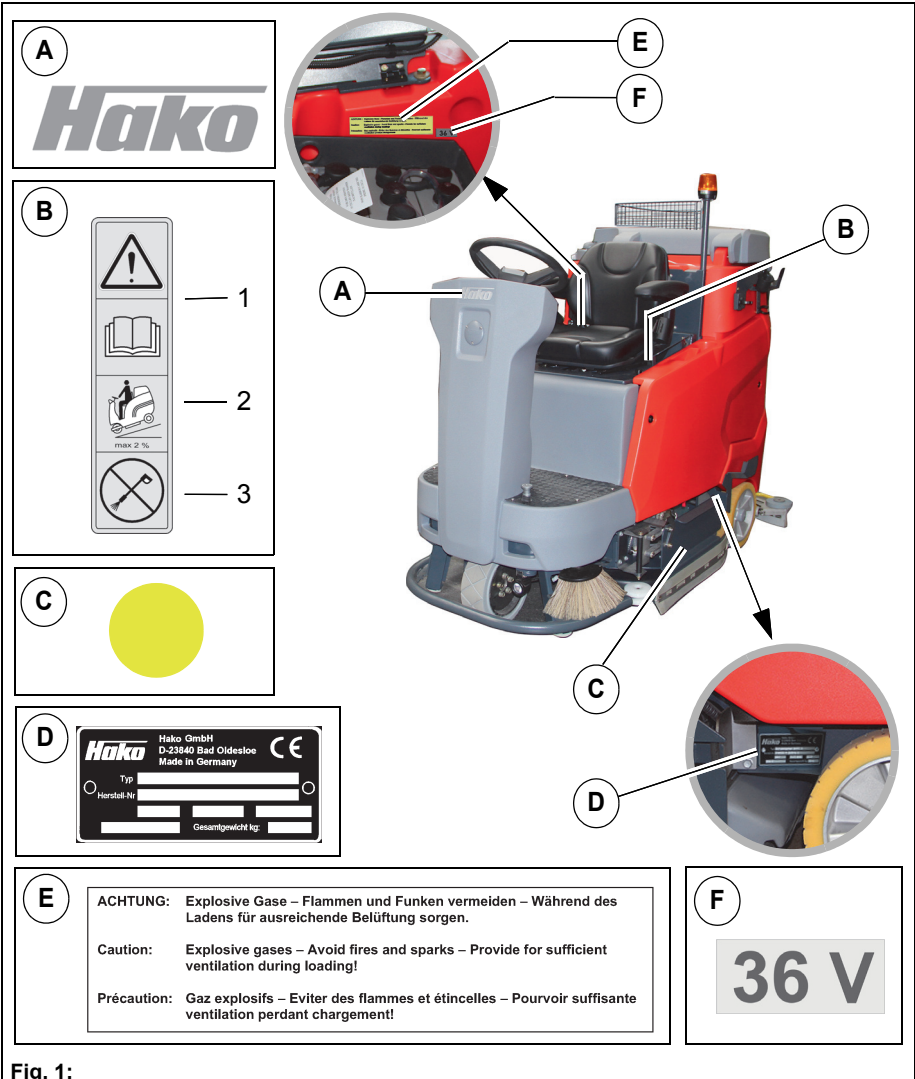
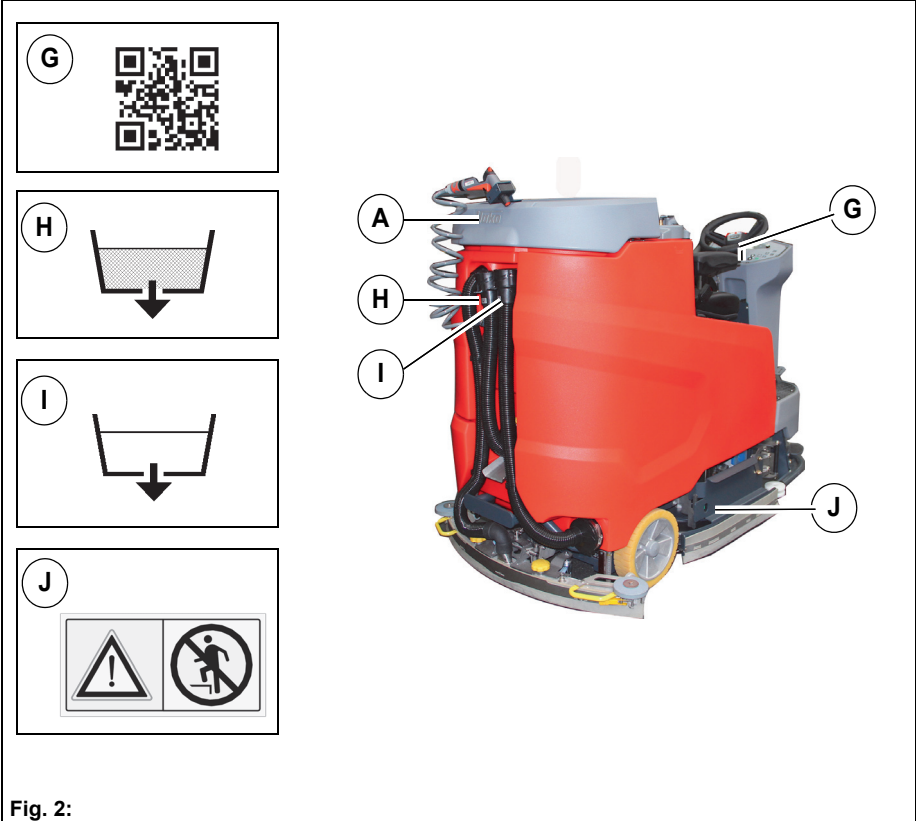

Fig. 1:
Fig. 2:
Company logo label Fig. 1/ Fig. 2-A
- **Read and observe the operating manual Fig. 1-B1**
- **Maximum permissible slope 6 % when cleaning Fig. 1-B2**
- **Never clean the machine with a high-pressure cleaner Fig. 1-B3**
Label – Maintenance parts (yellow dot) Fig. 2-C
Label – Type plate Fig. 2-D
Label – Explosive gases Fig. 1-E
Label – 36 V Fig. 1-F
Label – QR code Fig. 2-G
Label – Drain waste water Fig. 2-H
Label – Drain fresh water Fig. 2-I
Label – Keep off! Fig. 2-J